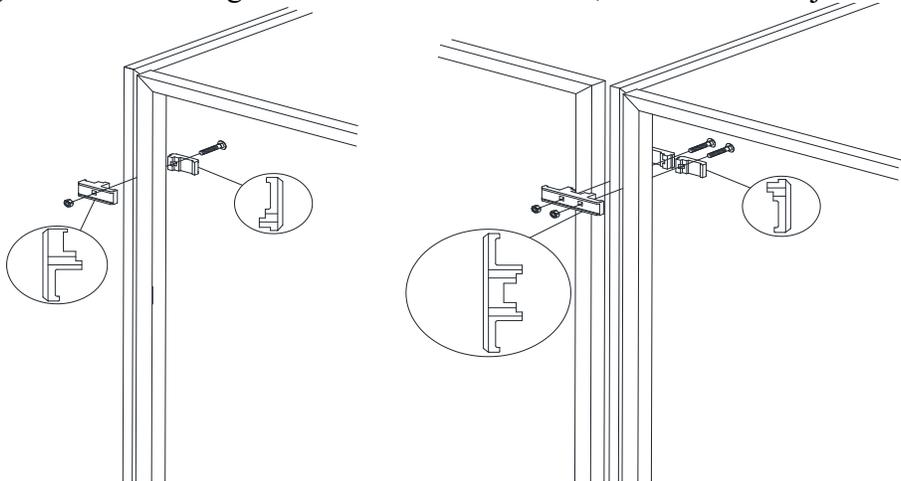
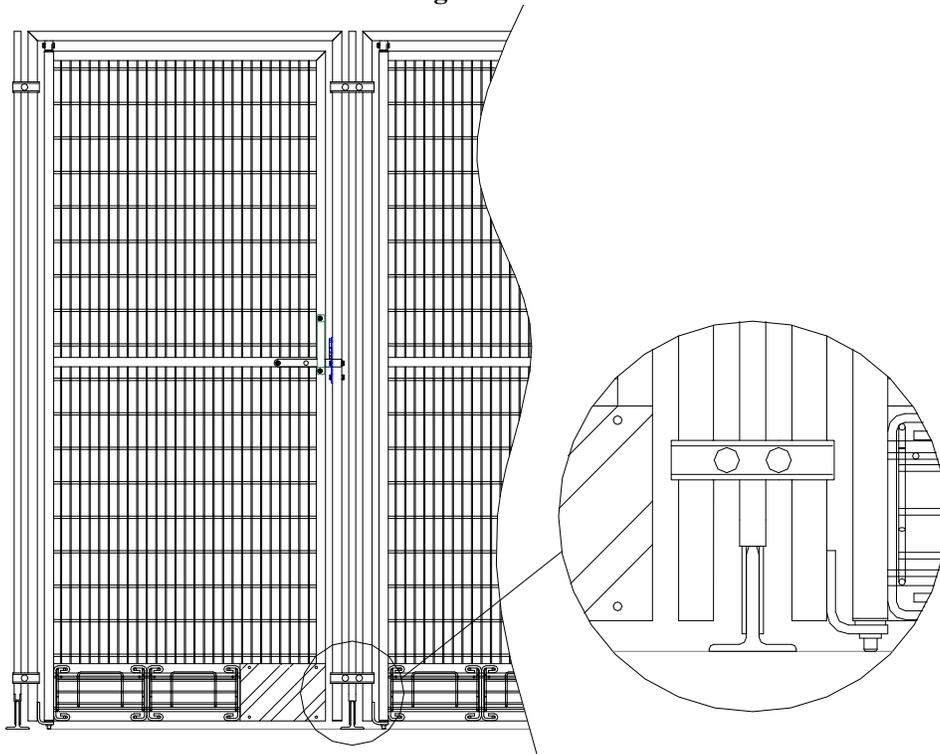

Figure F.4
Figure F.5
1. Attach the gate / stall front on the front of each run between the division panels with two clamps on each side using the 5/16" x 1-1/2" bolts and nuts provided (Figure F.4). Note: It takes two halves to make up one clamp. Attach gates / stall fronts to outside division panels using "square – 1" panel clamps". All other gates / stall fronts will use "square – 1" triple clamps". **To help insure the safety of the animals the round head of the bolt should be assembled toward the inside of the run.** Note: The triple clamps attach two gates / stall fronts together. Therefore you will have to hang two gates / stall fronts at the same time (Figure F.5).